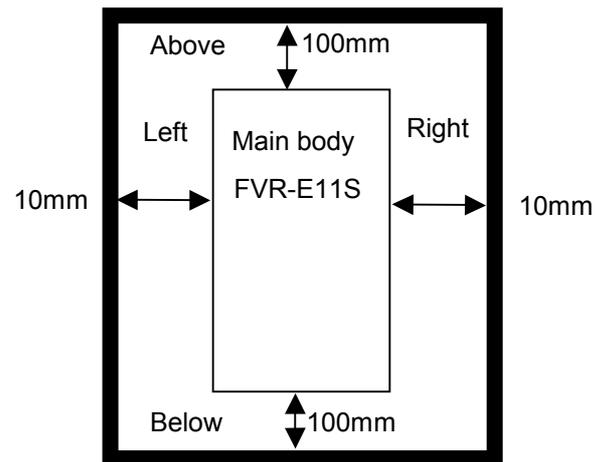

Fig. 2-2-1
- (1) Tightly mount the inverter in the upright position on a rigid structure so that the "FVR-E11" characters face front. Avoid mounting the inverter upside down or avoid mounting horizontally.
- (2) Allow clearances for cooling wind shown in Fig. 2-2-1 to cool down the inverter which generates heat during operation. The generated heat is radiated upward. Do not install the inverter below a heat sensitive device.
- (3) The temperature of the heat sink rises to about 90 degrees C during operation of the inverter. Mount the inverter on a base made of a material withstanding the temperature rise.